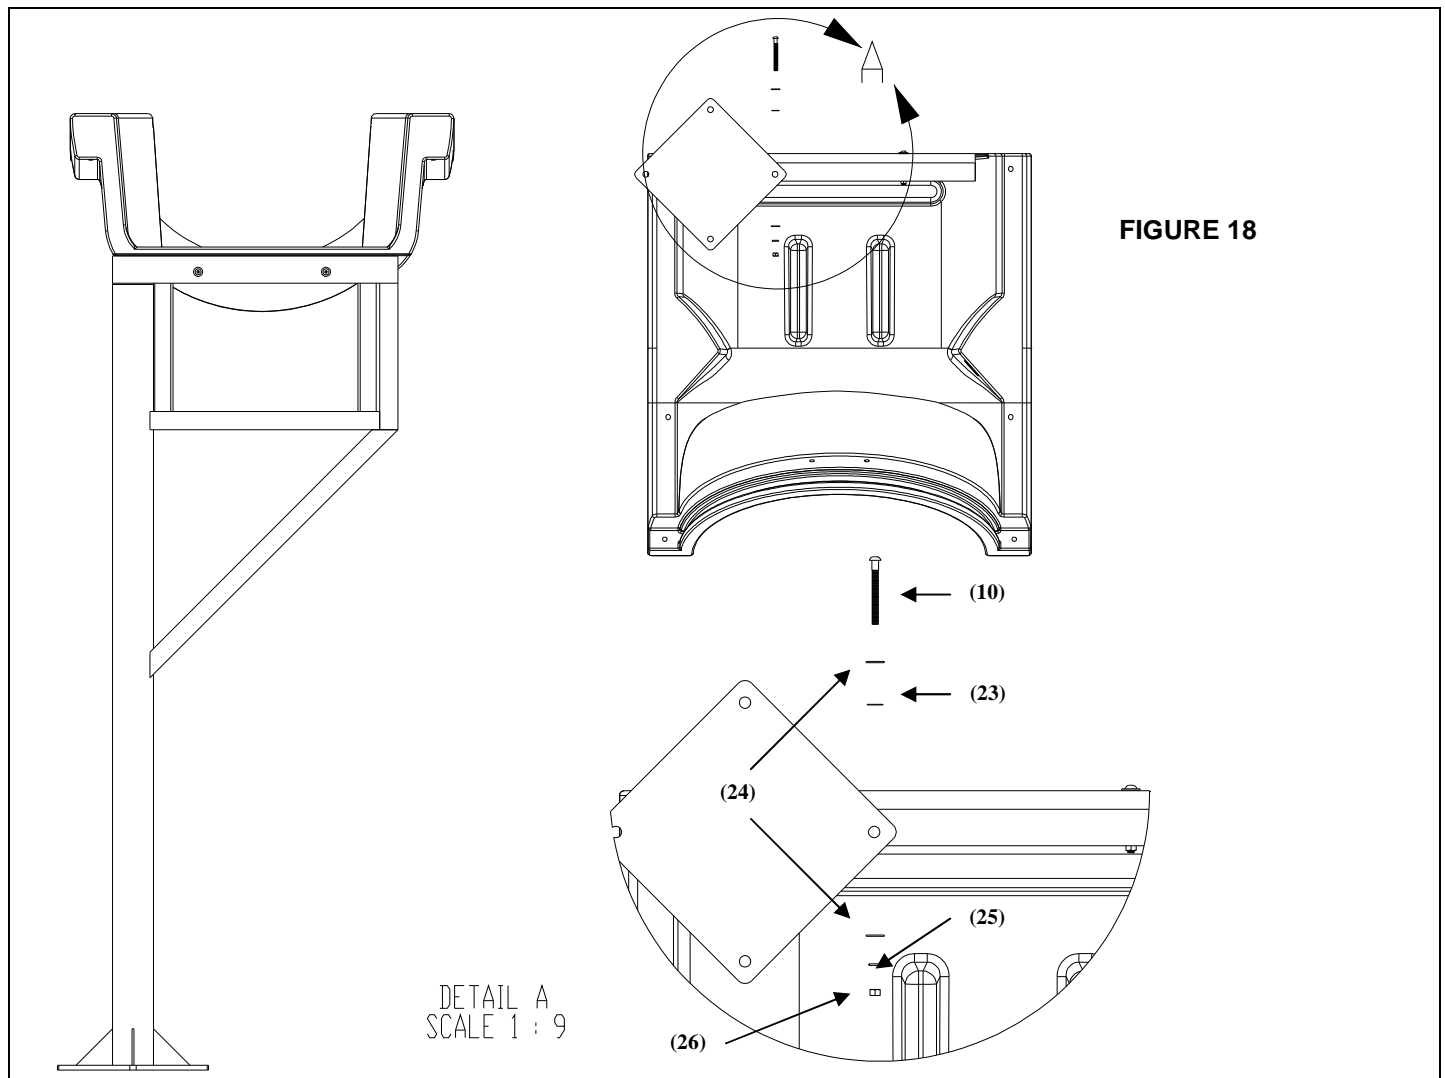

FIGURE 18
1) Move the Main Stair Support into place as shown in Figure 18. Align the holes in the support angle bracket with the holes in the entrance section. To ensure proper alignment of the assembly, temporarily place bolts through the mounting holes in the stair support angle bracket and the entrance section. It is also recommended that the bar clamps be used at this point to ensure that the support remains in place. Next, be sure that the mounting plate is flat against the concrete deck. Mark the hole locations for the concrete anchors in the base of the support. Remove the support and drill the 1/2" diameter X 2.25" deep holes for the concrete anchors. Follow the instructions on page 30 for inserting the concrete anchors into the deck. Place the support over the concrete anchors and against the entrance section of the slide. Attach the following hardware to the concrete anchors, but do not fully tighten: 1/2" Nylon Washer (22), 1/2" Flat Washer (17), 1/2" Lock Washer (18), and a 1/2"-13 Hex Nut (20). Next, place the required hardware into the holes on the front face of the stair support angle bracket, See Figure 15, Detail A. The required hardware is as follows: 3/8" x 3.5" Button Head Cap Screw (10), 3/8" Flat Washer (24), 3/8" Nylon Washer (23), 3/8" Flat Washer (24), 3/8" Lock Washer (25), 3/8" Hex Nut (26). This should be done for both sides of the support. After this connection is completed, finish tightening down the hardware at the base of the support.